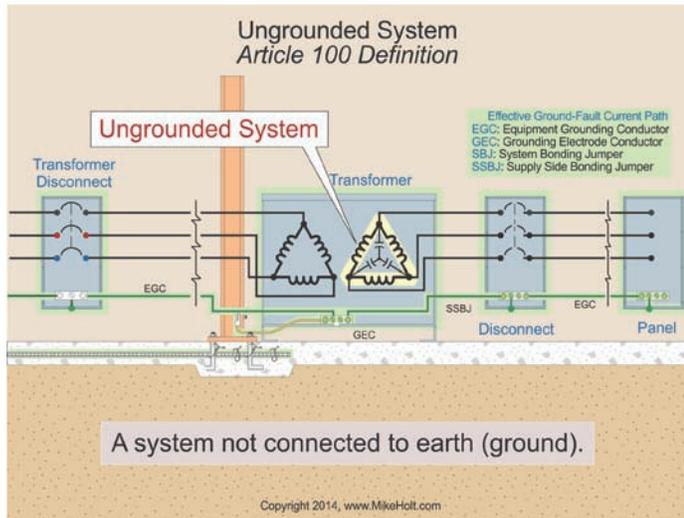

Figure 250–18
**(B) Ungrounded Systems.****Author's Comment:**
- Ungrounded systems are those systems with no connection to the ground or to a conductive body that extends the ground connection [Article 100]. Figure 250–18
**(1) Equipment Grounding.** Metal parts of electrical equipment are grounded (connected to the earth) to reduce induced voltage on metal parts from exterior lightning so as to prevent fires from an arc within the buildings. Figure 250–19